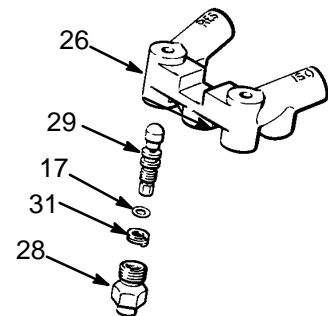

Fig. 22
4. Use a pick to remove the backup washer (31) and o-ring (17). See Fig. 22.
5. If needed, soak the valve housing (28) in solvent to remove fluid buildup.
6. Install the backup washer (31) on the stem and screw the stem into the valve housing (28) to “size” the washer. Unscrew the stem.
7. Install the o-ring (17) on the stem. See Fig. 22.
9. Continue screwing the stem into the housing (28) all the way to the shoulder.
10. Screw the housing into the manifold (26). Don't exceed 80 in-lb (9 N•m) of torque.